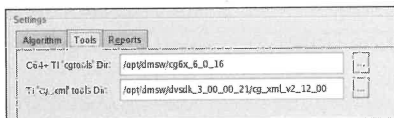

Figure 7-2: Enter the paths to the codec's directory and library archive.
5. Switch to the Tools tab and set the paths to the prerequisite tools, as shown in Figure 7-2.